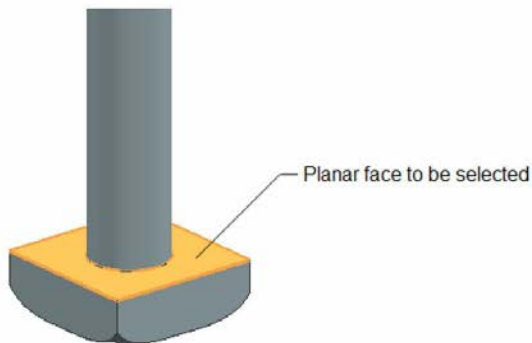
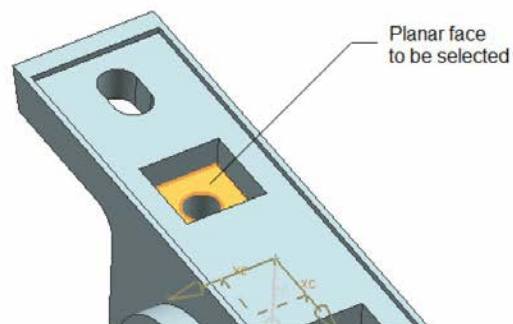

Figure 8-95 Planar face to be selected from the Bolt
Figure 8-96 Planar face to be selected from the Casting
7. Select the planar face of the Bolt, refer to Figure 8-95. Next, select the planar face of the Casting, refer to Figure 8-96.